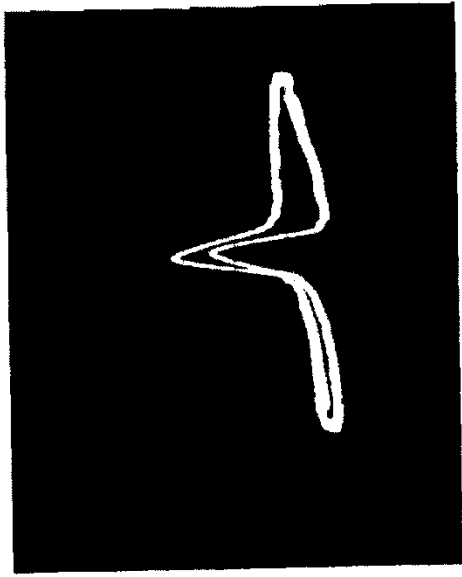

Fig. 7
2. With the phase shifter overlap the two peaks, Fig 7.